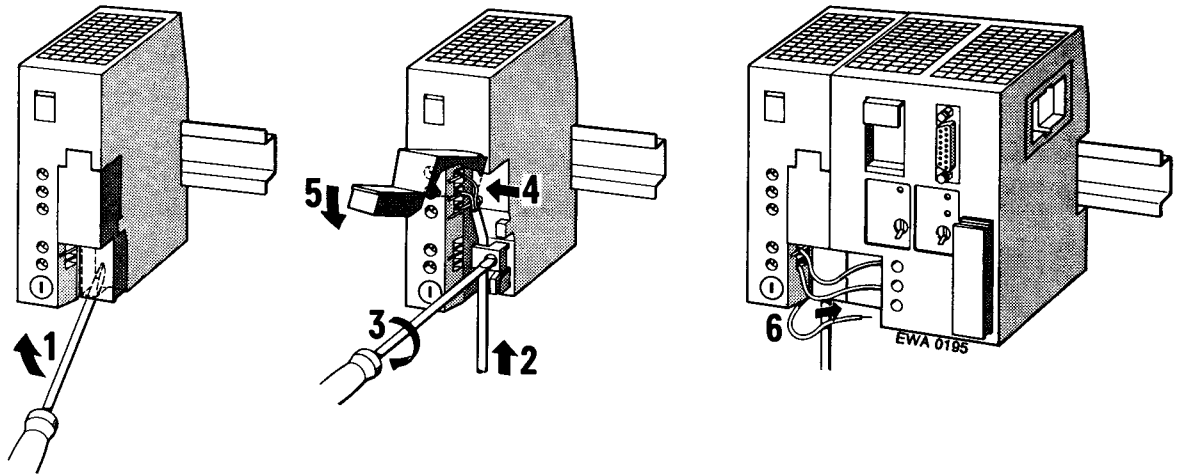

Figure 3-11. Connecting a Power Supply Module and a CPU
3. Connect the supply cable to terminals L1, N and $\underline{\underline{0}}$ (see Figure 3-11).